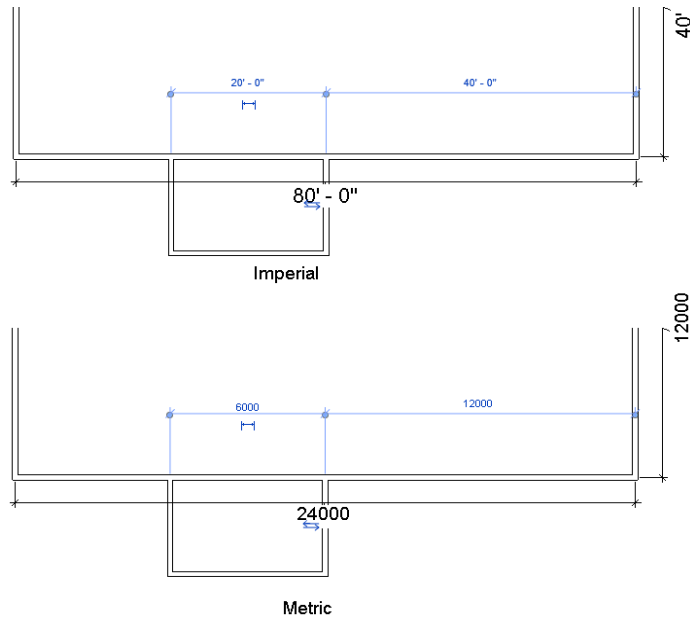

Figure 3-63 The completed exterior profile of Office Building
- Sketch the interior walls based on the given parameters, refer to Figures 3-63 through 3-69.
5. Now you need to draw the third wall segment. To do so, move the cursor upward and enter **13'** for Imperial or enter **3900 mm** for Metric as the value of the length and press ENTER. The other exterior wall segments are created, as shown in Figure 3-63.